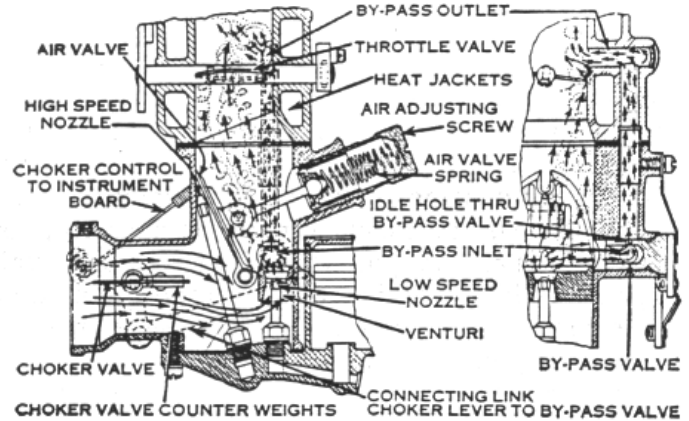

Fig. 7
**Choker and By-Pass.** - A choke button is provided on the instrument board to assist in starting. Pulling out this button does two things in the carburetor. First it closes a butterfly choker valve in the air inlet of carburetor which restricts the air opening and consequently produces a very rich mixture for starting. Second, through inter-connection of the choker lever and by-pass valve, Fig. 7, this motion likewise opens a passage between mixing chamber just above low speed nozzle and the intake manifold passage just above the throttle. Due to the higher suction existing above the throttle, the over rich starting mixture is therefore immediately drawn through the fixed opening in the by-pass valve up past the throttle and on into the engine. Partial release of the choker button on the instrument board after starting, releases the choker valve so that it positions itself to the needs of the engine by the action of the compensating spring attached to the choker valve. The spring allows the valve to open or close automatically depending on the engine speed or quantity of air passing through the carburetor. This partial release of the choker button does not, however, change the position of the by-pass valve opening which remains open, and the engine therefore runs at an increased idling speed during this period the same as would be obtained if the throttle were manually opened
As soon as the engine is sufficiently warmed up to drive with control button completely released, the by-pass valve returns to its normal position as shown in Fig. 7 and the choker valve is automatically locked in the wide open position.